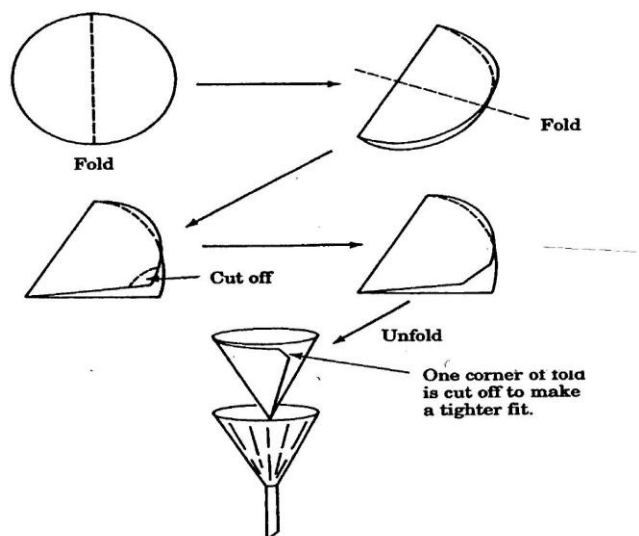

Figure 5. Steps for folding a filter paper for gravity filtration
1. Obtain a clean, dry small beaker and carefully mass it. Record this weight for beaker 1 on the Report Sheet (1).
2. Obtain a sample of the mixture from your teacher. Place the unknown mixture into beaker 1. Record the mass of the beaker plus the mixture (2). Calculate the mass of the mixture by subtraction (3).
3. Obtain a magnet. Wrap the magnet with clear plastic wrap. Mass the magnet and clear plastic wrap together (4).
5. When you have collected all the iron filings on the magnet, weigh the magnet with the filings (5). Calculate the mass of the filings that you separated (6).
8. Weigh a second clean, dry beaker (7).
10. Fold a piece of filter paper following the technique shown in Fig.5